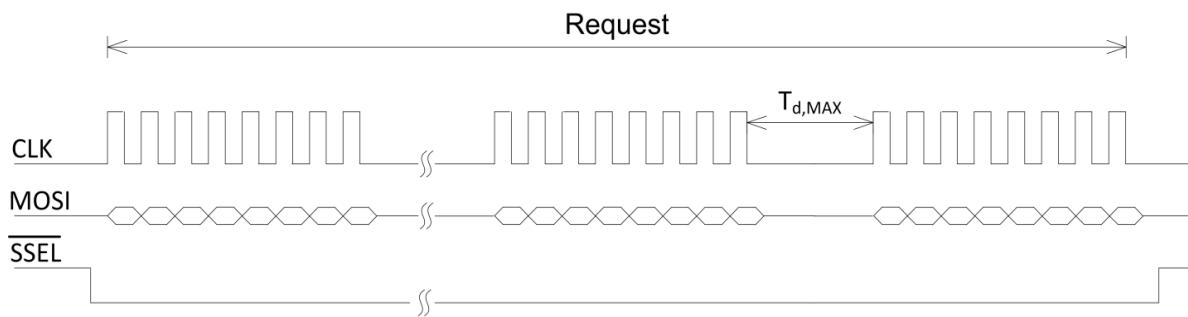

Figure 10-5: SPI Request Timing
- For the request data on the MOSI line, the host software should keep the SSEL pin at steady state low as shown in Figure 10-5 below.